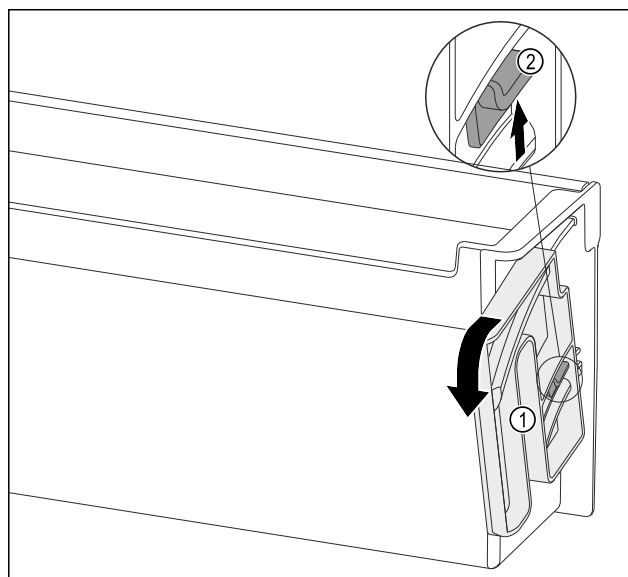

Fig. 141
- Turn the swivel unit *Fig. 141 (1)* in the specified direction as far as it goes.
- Push the tab *Fig. 141 (2)* up and remove the swivel unit *Fig. 141 (1)*.